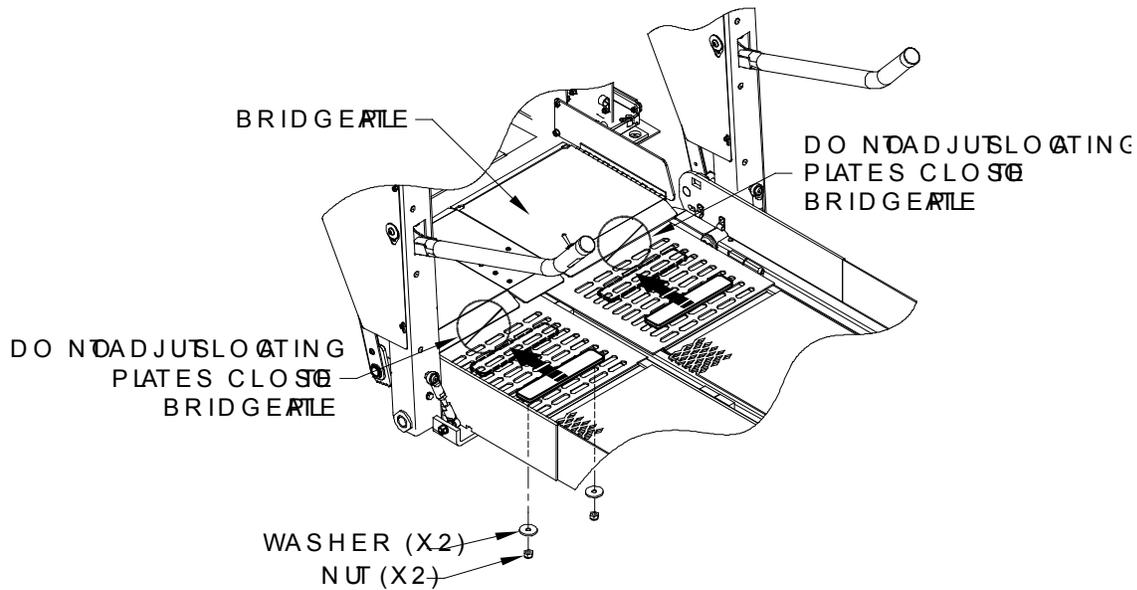

FIGURE 2-14: WHEELCHAIR LOCATING PLATE ADJUSTMENT
- a. Refer to **Figure 2-14**. Remove and retain two washers and two nuts from bottom side of platform to adjust wheelchair locating plates.